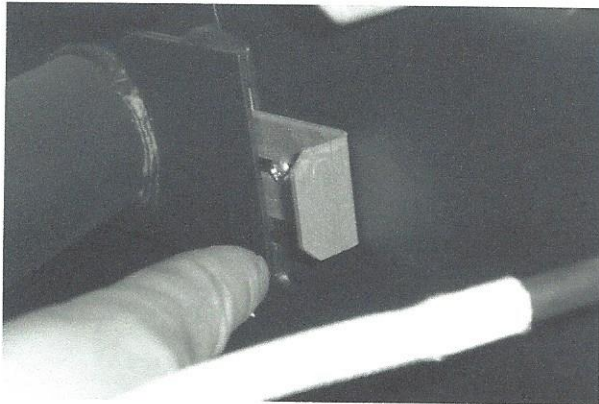

Figure 27
**IMPORTANT NOTE: BEFORE INCREASING THE EXHAUST VOLTAGE**, if you are having issues with getting enough air to your fire, **FIRST** try to adjust the air flow gate. SEE FIGURE 27. This will also adjust the air flow to the stove.